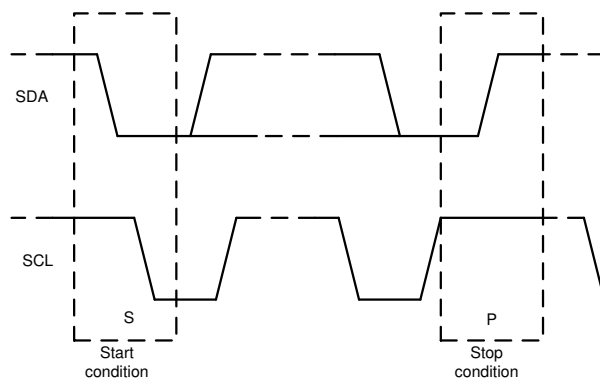

Figure 6-21. Start and Stop Conditions
1. The controller initiates data transfer by generating a start condition. Figure 6-21 shows that the start condition is when a high-to-low transition occurs on the SDA line while SCL is high. All I²C-compatible devices recognize a start condition.
4. Figure 6-21 shows that to signal the end of the data transfer, the controller generates a stop condition by pulling the SDA line from low-to-high while the SCL line is high. This action releases the bus and stops the communication link with the addressed target. All I²C-compatible devices recognize the stop condition. Upon receipt of a stop condition, the bus is released, and all target devices then wait for a start condition followed by a matching address.